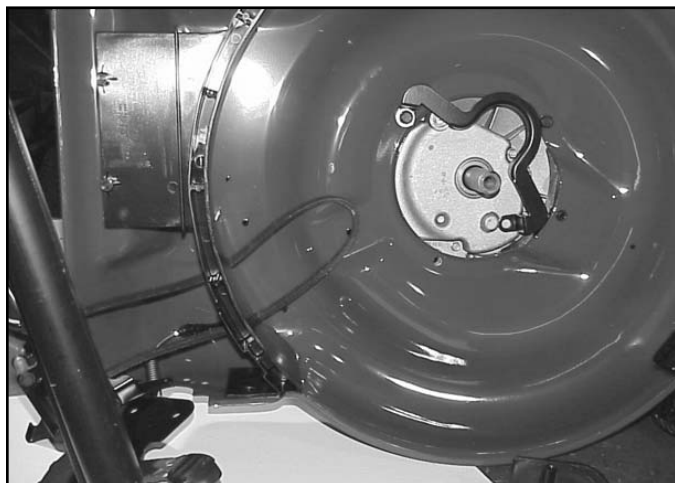

Fig 074
18. Pull the belt cover out from under the rear wall and the belt is exposed (Fig. 074).